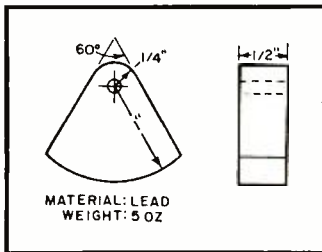

Fig. 5. You can fashion a pendulum from a piece cut from an old tuning flywheel.
**Construction.** The circuit of Fig. 1 is assembled in the U-shaped portion of a 5" x 3" x 2¼" metal case, drilled as shown in Fig. 2. A cover fabricated by following the layout of Fig. 3 can be covered with a contact-adhesive leatherette finish. Construct the mounting brackets for *R5* and *R4* as shown in Fig. 4. Build, or purchase (see Parts List) the pendulum following the information given in Fig. 5.